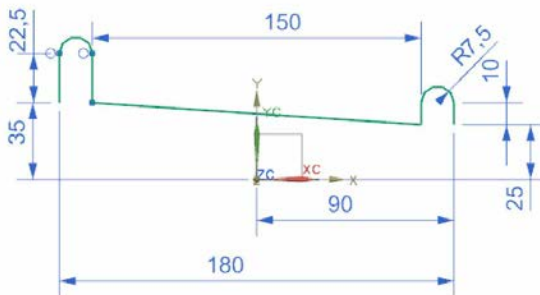

Figure 10-97 The sketch created for the base feature
- Create the sketch for the base surface and then revolve it, refer to Figures 10-97 and 10-98.
1. Create the sketch for the base surface on the XC-YC plane, as shown in Figure 10-97.